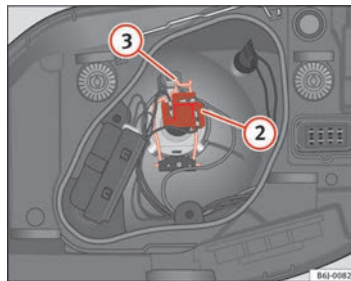

Fig. 140 Dipped beam / main beam, single light
- Remove the connector ⇒ page 213, fig. 140 ② from the bulb.
- Unclip the retainer spring ⇒ page 213, fig. 140 ③, pressing inwards to the right.